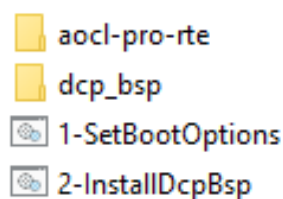
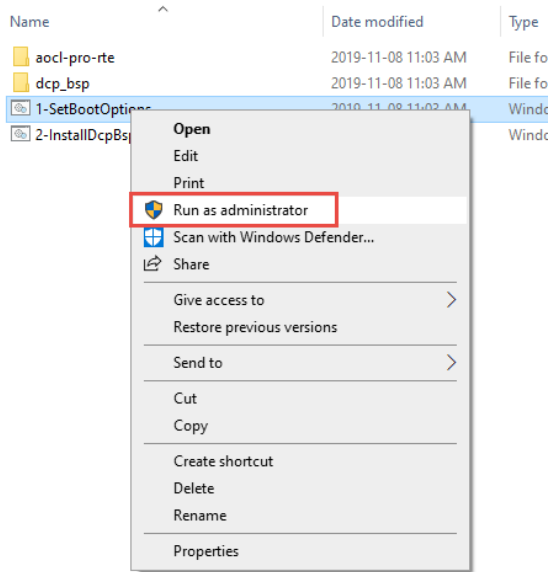

Figure 3-4 The FLIK-Windows-Install folder
Figure 3-5 Run 1-SetBootOptions.bat as administrator
3. Go to the path “/OpenVINO2019R1_windows/FLIK-Windows-Install_19.2” and execute “1-SetBootOptions.bat” as an Administration to enable test-signed code and device driver signing of the windows, as shown in Figure 3-4 and Figure 3-5.